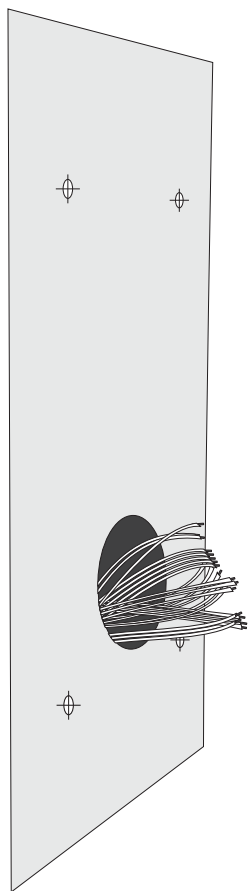

Figure 1
- Trace out the screw holes on the wall along the holes on the Mounting Plate (figure 1).